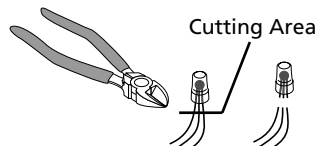

Figure 1 Cutting Area
2. Remove the motor junction box cover. Cut off all wire termination as close as possible to the termination (See Figure 1).